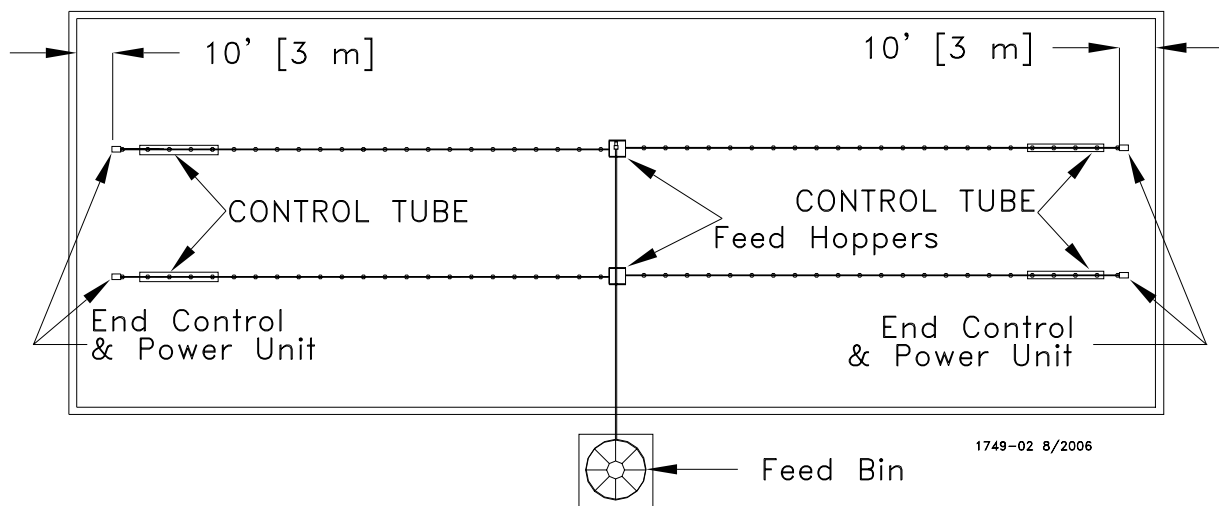

Figure 2. Component location diagram for systems over 400 feet [122 m]. (Top View).
B. Systems with line lengths over 400' [122 m] should be split in the center, as shown in Figure 2.. This will reduce auger running time.